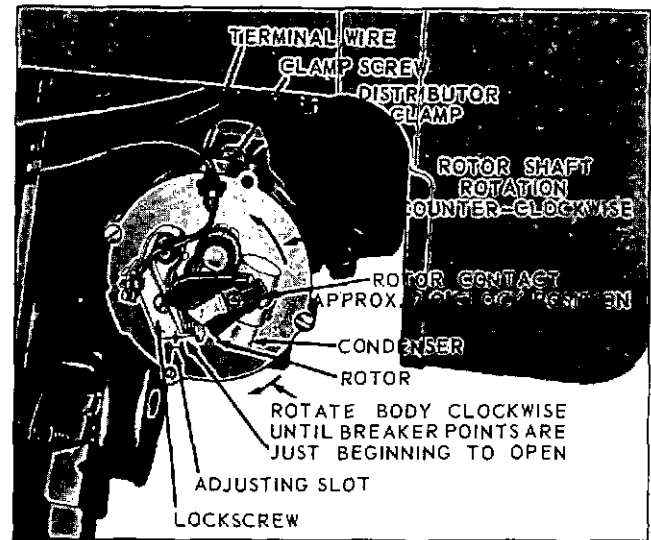
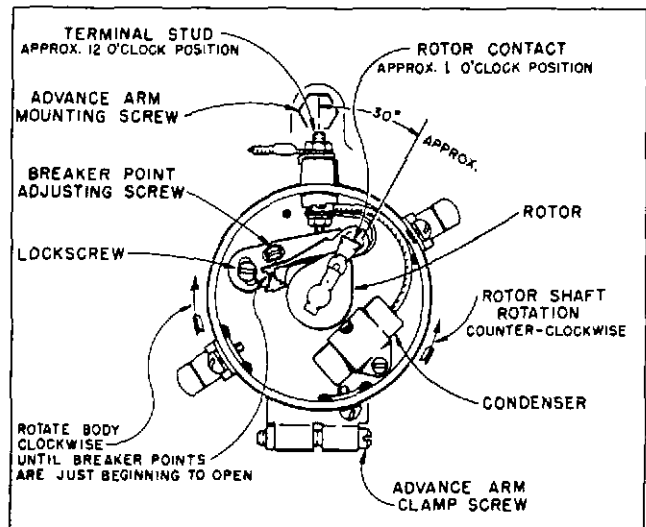

Fig. 7, DELCO-REMY DISTRIBUTOR
Fig. 7A, PRESTOLITE DISTRIBUTOR
4. **DISTRIBUTOR TIMING:** With the No. 1 piston now on *TDC* of the compression stroke, refer to Fig. 7 for the revised *Delco-Remy* distributor or Fig. 7A for *Prestolite*, and mount distributor as follows:
- b. Hold distributor with face up and *terminal wire* or *terminal stud*, away and in a 12 o'clock position as shown. Mount rotor on shaft and turn until the *rotor contact* points in an approximate 2 o'clock position as illustrated in Fig. 7, or 1 o'clock position as in Fig. 7A.
- d. Mount *distributor clamp* to drive housing, Fig. 7, but do not tighten screw. If applicable, as per Fig. 7A, tighten *advance arm mounting screw* to the drive housing.
The normal breaker point gap is 0.020 inch at full separation and can be adjusted in the following manner, with reference to *Figs. 7 or 7A*; Turn engine over by means of the starting crank until the distributor breaker arm *rubbing block* is on a high point of the *cam*. Loosen the stationary contact *lockscrew* very slightly and insert a feeler gauge between the points. By means of a screw driver inserted into the *adjusting slot* of the *Delco-Remy* distributor or by the *adjusting screw* of the *Prestolite* distributor, open or close points as required until a slight drag is felt when sliding feeler gauge between the points. Tighten lockscrew and recheck gap.